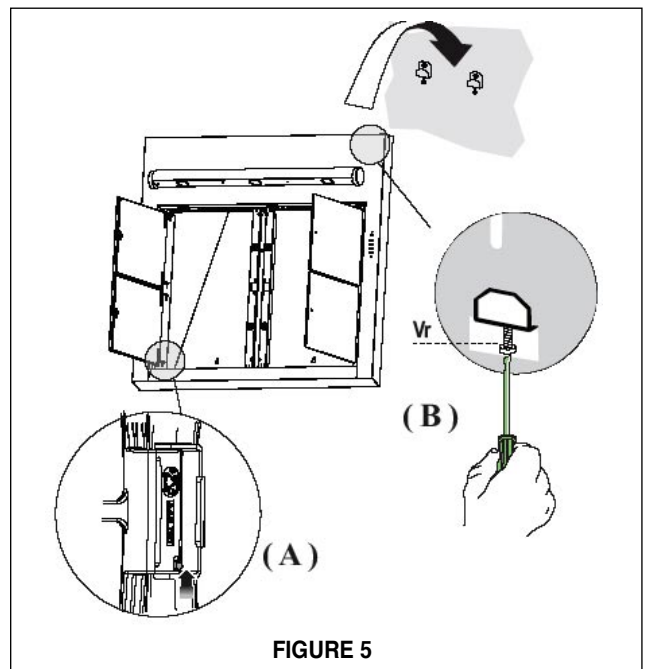

FIGURE 5
1. Open the ducting panels on the rangehood. Disconnect the 4 panels from the hood by sliding the fixing pin lever (as indicated in (A) FIGURE 5).
3. Adjust the two adjusting screws on the mounting hardware (B in FIGURE 5) to the lowest point
4. Hang the rangehood on the two mounting screws and from the inside of the hood, adjust the mounting screws to make the hood level (B in FIGURE 5).
2. Place the 4 ducting panels back onto the hood (**as indicated in FIGURE 5**)